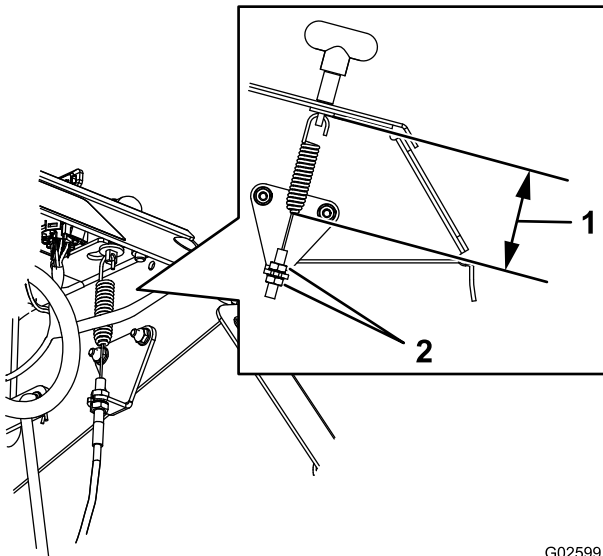

Figure 52
4. Loosen the jam nut on the brake cable under the console (Figure 52).
5. Set the parking brake (Figure 52).
6. Adjust the jam nut position until 7.9 cm (3-1/8 inch) from the bottom of the link to the bottom of the spring (Figure 52).
7. Secure the adjustment of the cable by tightening the jam nuts (Figure 52).